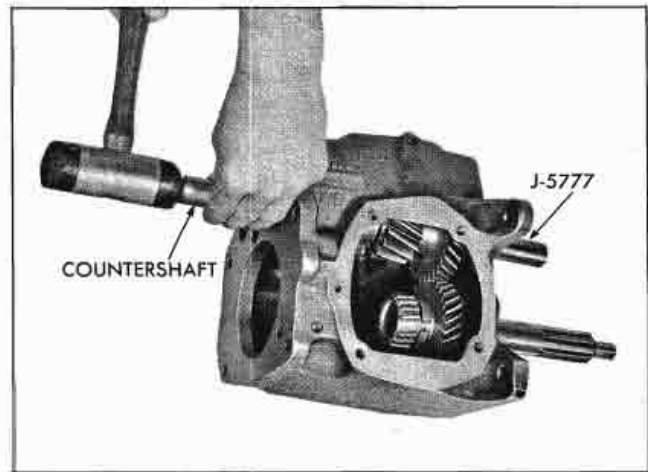

Fig. 7-50 Installation of Countershaft
12. Align countergear with shaft and, using soft hammer, tap shaft through, pushing bearing loader J-5777 out the front of case (Fig. 7-50).